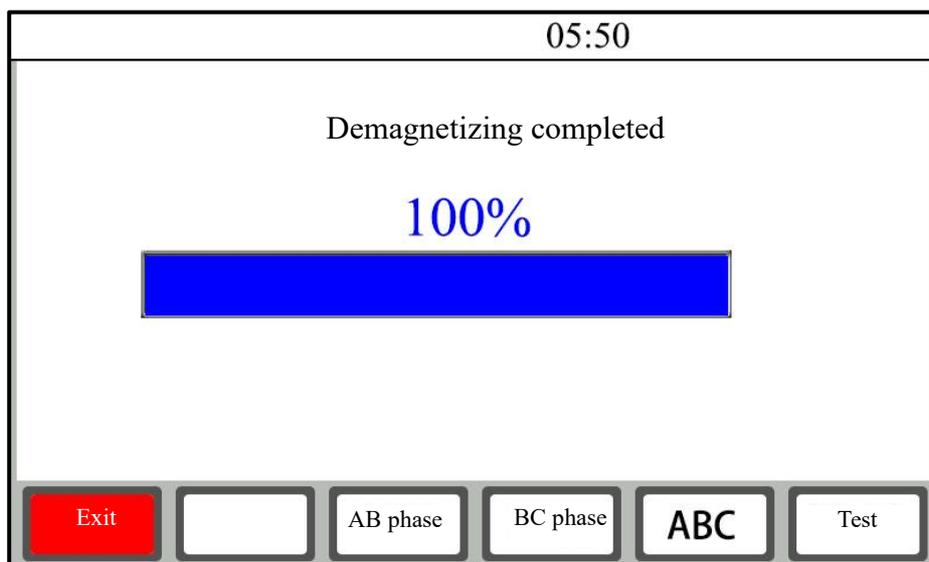

figure 18
**Demagnetizing method:** The demagnetizing wiring adopts the transformer high-side degaussing wiring method. Ab phase degaussing, BC phase degaussing, ABC phase demagnetization can be selected. AB phase degaussing needs to connect the corresponding test lines to the transformer A and B phases and the instrument high voltage windings IA and IB, select the AB phase and then touch the "Test" key to start the AB phase demagnetization interface (Figure 18).